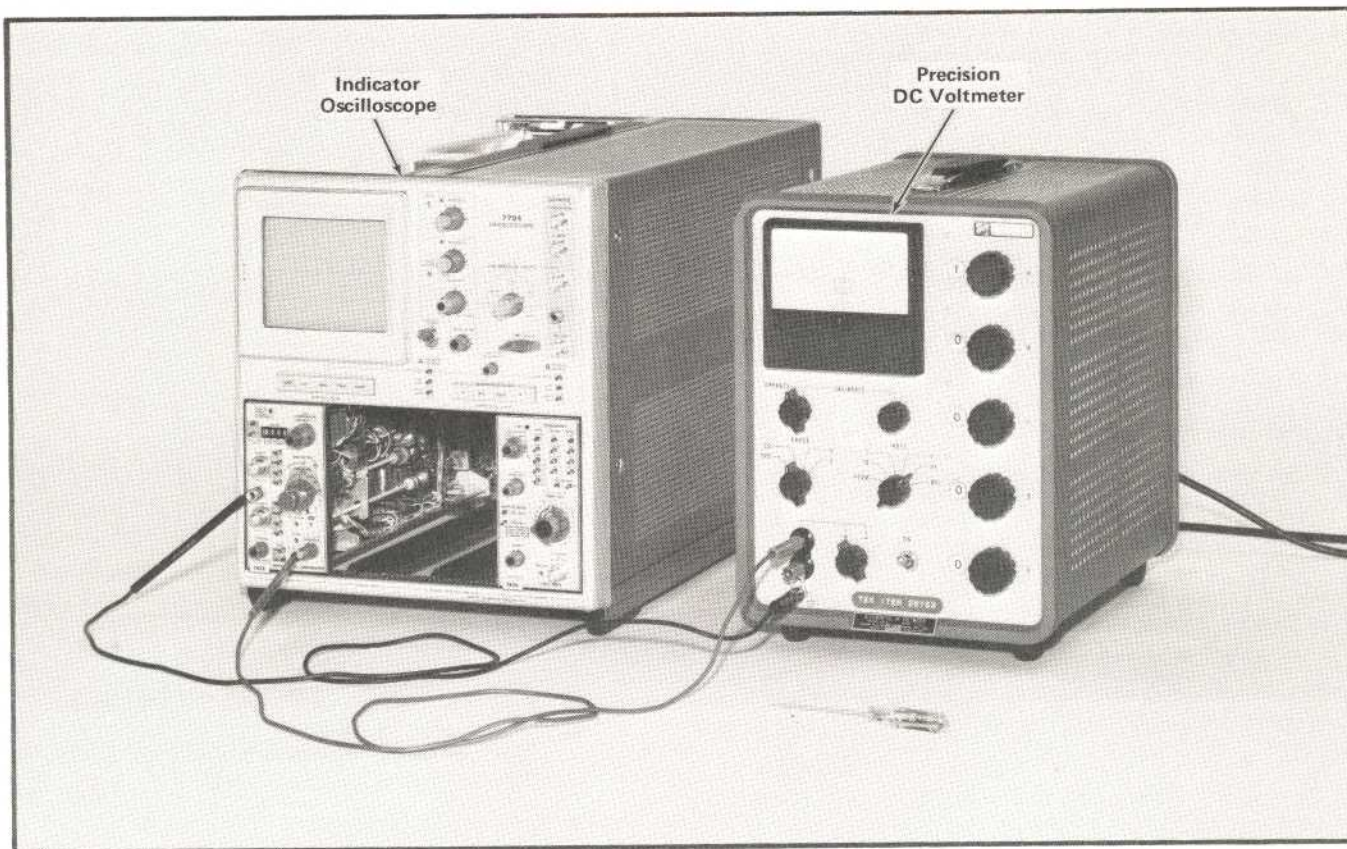

Fig. 5-26. Initial setup showing equipment required for performing steps 27 through 31.
①
a. Test equipment setup, with connections made at completion of step 27d, is shown in Fig. 5-26.